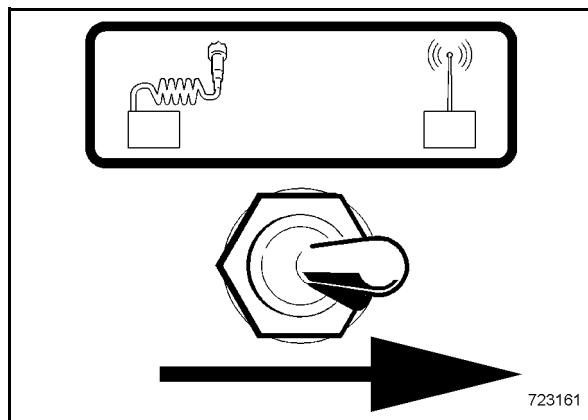

Fig. 57
- Set the toggle switch (Fig. 57) to remote control position.